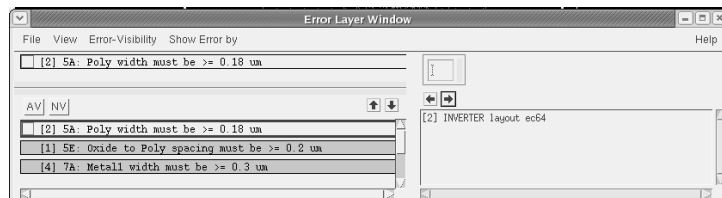

Figure 6.6: Error Layer Window
5. The total number of errors will show up in the **Error Layer Window** as seen in Fig.6.6.